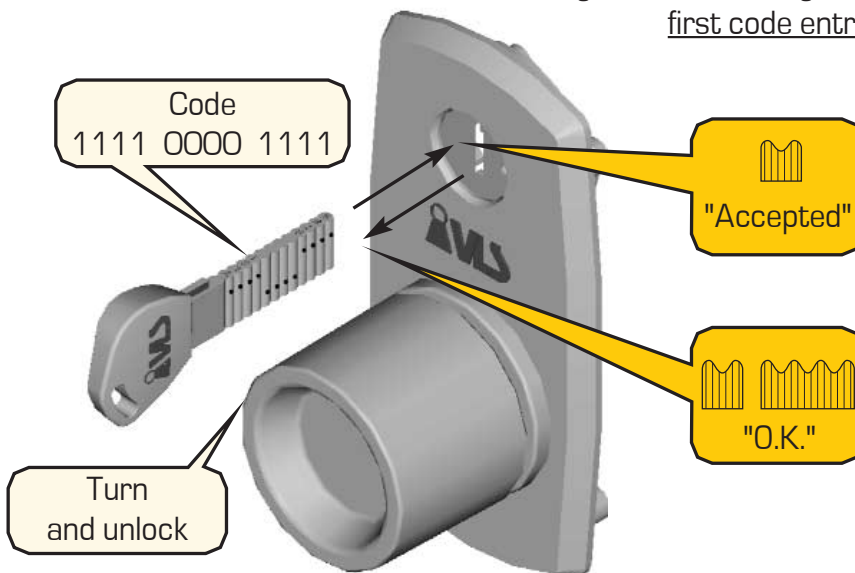

Figure 7 – Checking the lock: the second code entry
**13.** Having turned the handle from the keyhole side (fig. 7), make sure that the door is unlocked.